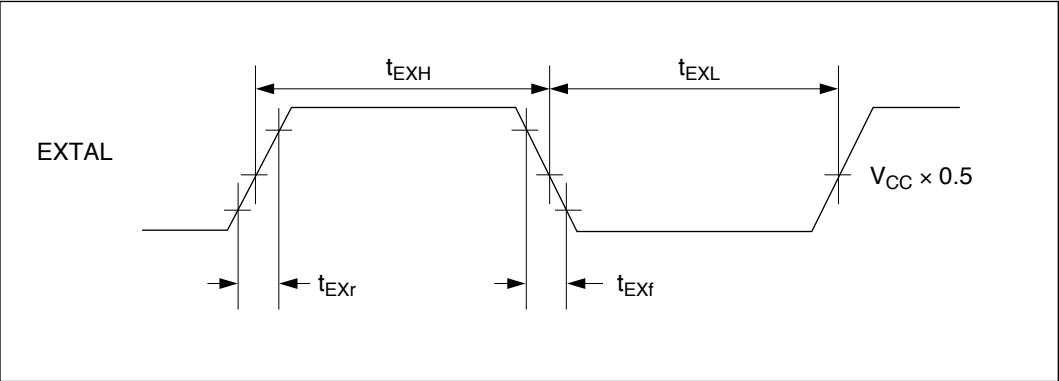

Figure 8-6 External Clock Input Timing
(2) **External Clock:** The external clock frequency should be equal to the system clock frequency (ϕ). Table 8-3 and figure 8-6 indicate the clock timing.